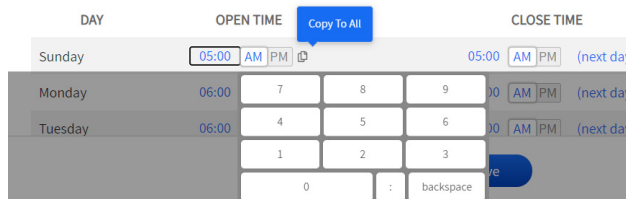

Fig. 1.11
**Time/Value Fields:** Some active areas, such as time fields, are edited by clicking on the field. When you click the cursor or tap in this field, a pop-up keypad opens (see Fig. 1.11). Use the “backspace” key to clear the field, the number keys to enter a time value, and the colon key to separate hours and minutes. Click “Copy to All” to apply this value to all active fields in the column. A “Warning” dialog will prompt you to Cancel or Confirm. Click “Confirm” to apply.